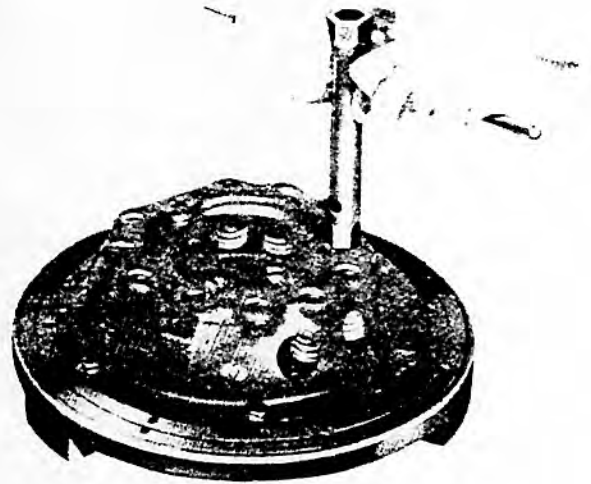

FIG. 9 99 CLUTCH ASSEMBLY FIXTURE.
5. Remove the adjusting nuts (Fig. 9) and gradually unscrew the set bolts to relieve the load of the thrust springs. Lift the cover off the clutch.